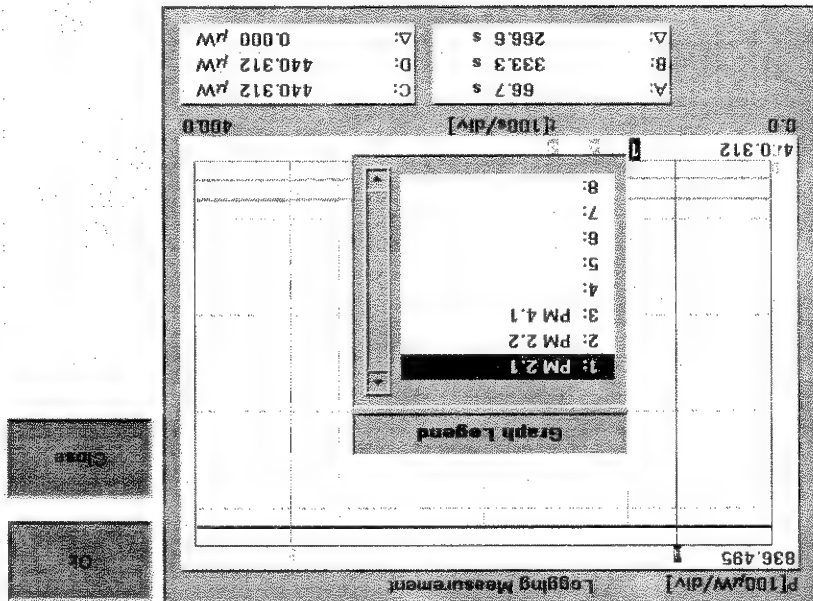

Figure 105 The Graph Legend Screen
- 1 Press the [Menu] softkey and move to *<Legend>*. A list of the Power Meter channels appears that is similar to Figure 105, where all the Power Meters are listed numerically with regard to legend number. All legend texts, if you have